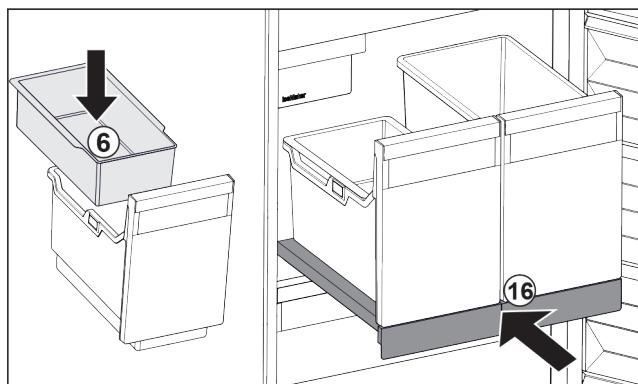

Fig. 106
- ▶ Insert hang-on tray Fig. 106 (6) for ice cubes.
- ▶ Slide in the pull-out board with (IceTower) container. Fig. 106 (16)